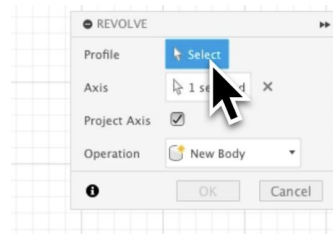

Figure 1.2
- Select the profile to revolve. In the '**Revolve**' window you'll select your profile and axis (see Figure 1.2).